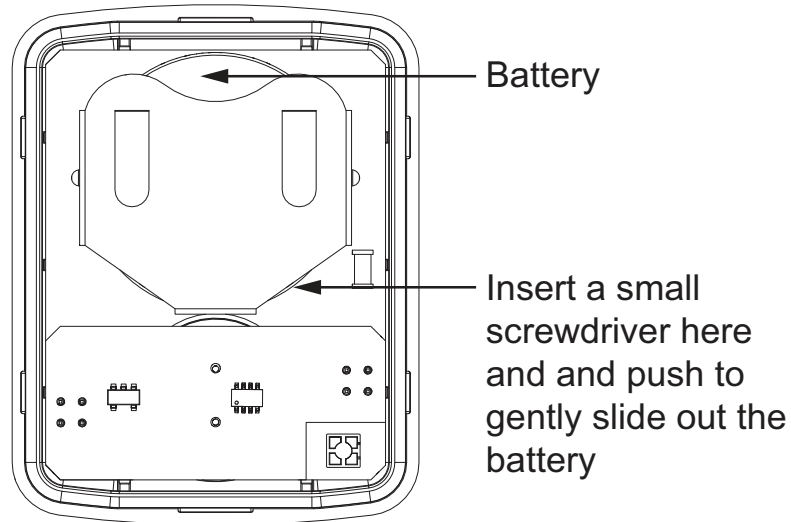

Figure 33 Pendant with bottom half of case removed
The battery holder is on top of the circuit board (Figure 33).
5. Insert a small screwdriver as shown in Figure 33 and push to gently slide out the battery.